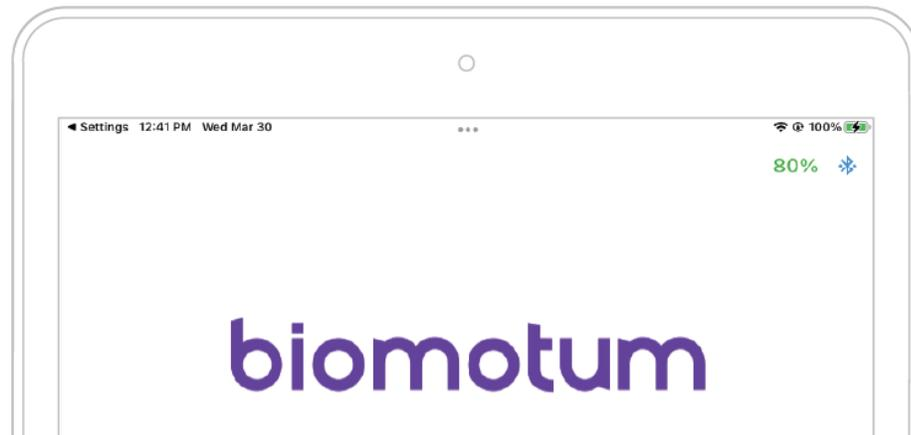

Figure 18. Battery charge level and Bluetooth connection indicators
- The battery charge level (%) is indicated at top right of the home screen in the app. (Figure 18)